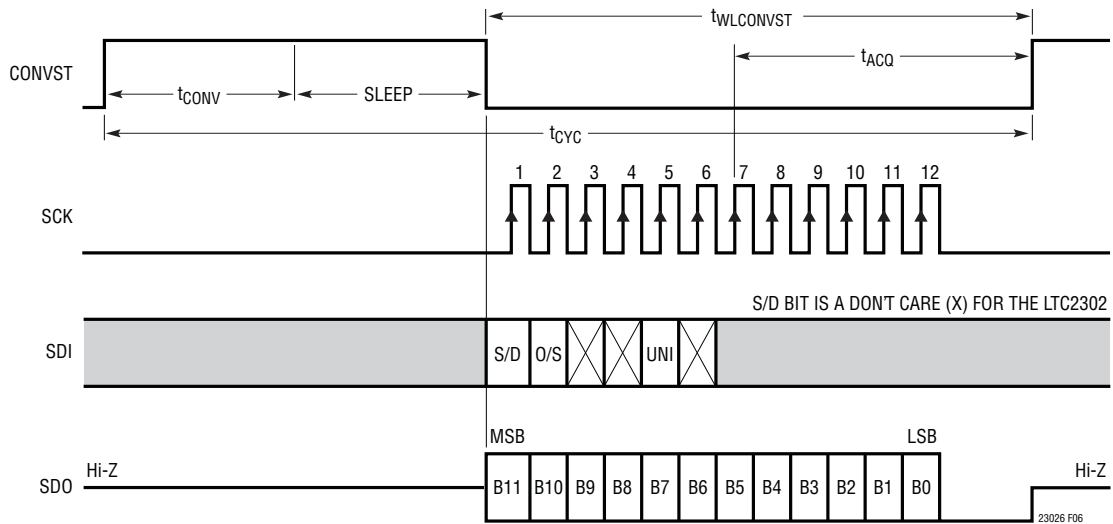

Figure 6. LTC2302/LTC2306 Timing with a Long CONVST Pulse
The software compatible LTC2302/LTC2306/LTC2308 family features a 6-bit D_{IN} word to program various modes of operation. Don't care bits (X) are ignored. The SDI data bits are loaded on the rising edge of SCK, with the S/D bit loaded on the first rising edge (see Figure 6 in the Timing
The start of a conversion is triggered by the rising edge of CONVST. Once initiated, a new conversion cannot be restarted until the current conversion is complete. Figures 6 and 7 show the timing diagrams for two different examples of CONVST pulses. Example 1 (Figure 6) shows CONVST staying HIGH after the conversion ends. If CONVST is high after the t_{CONV} period, the LTC2302/LTC2306 enter sleep mode (see Sleep Mode for more details).